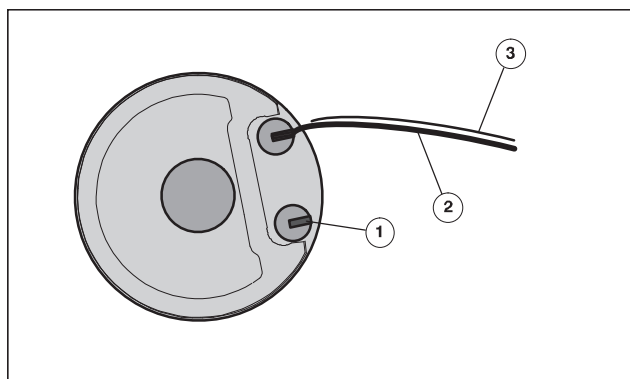

Fig. 26 Packing the blanket
7. Press the rear pinch rail of the blanket lightly against the spring in the clamp shaft towards O.S. and remove from the groove (Fig. 26/1) of the clamp shaft.
8. Rotate the press backwards with the crank handle, while guiding the blanket (Fig. 26/2) and the packing sheet (Fig. 26/3) out of the press by hand.